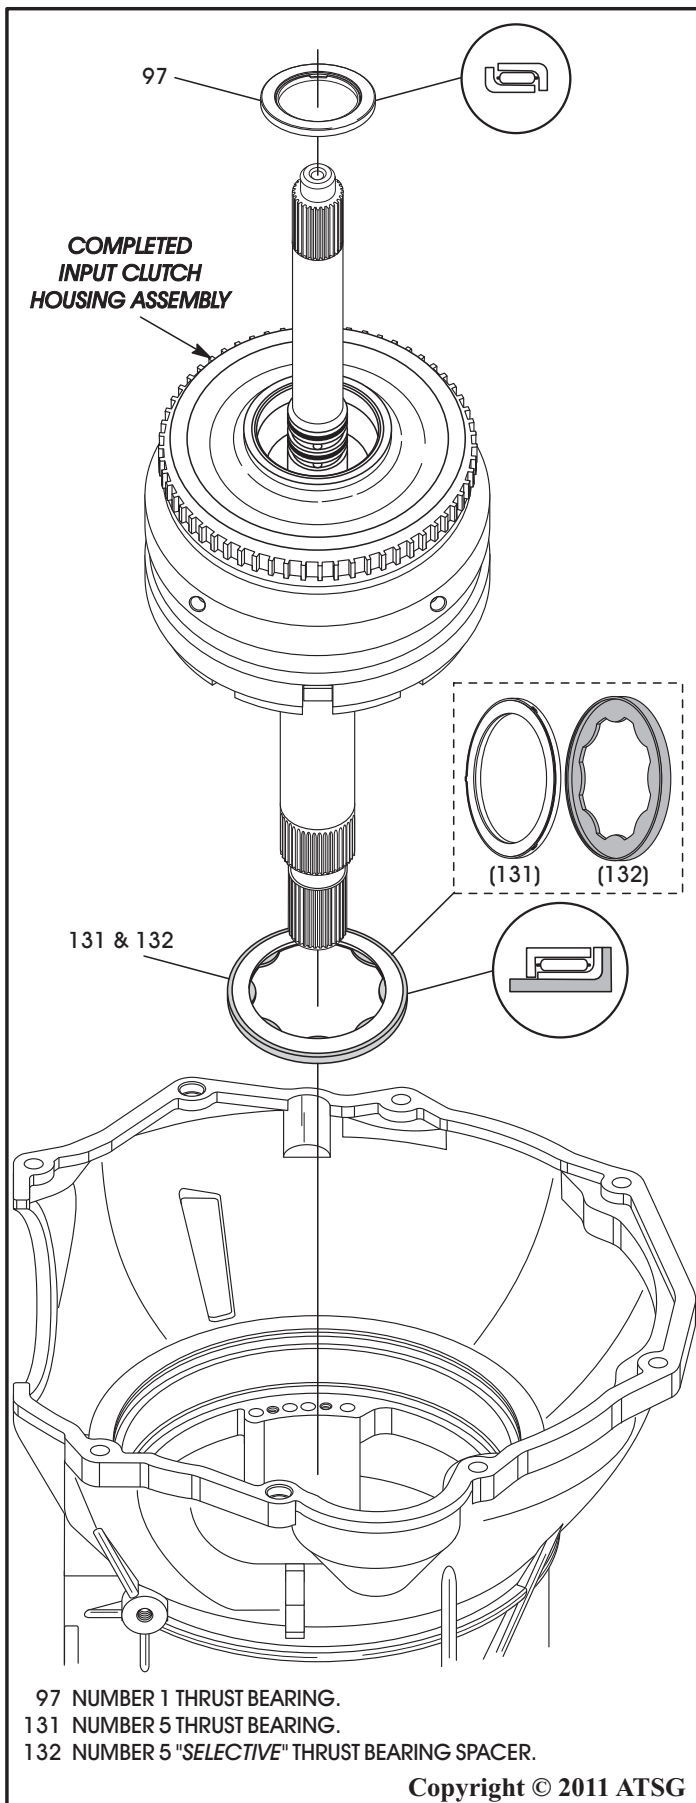
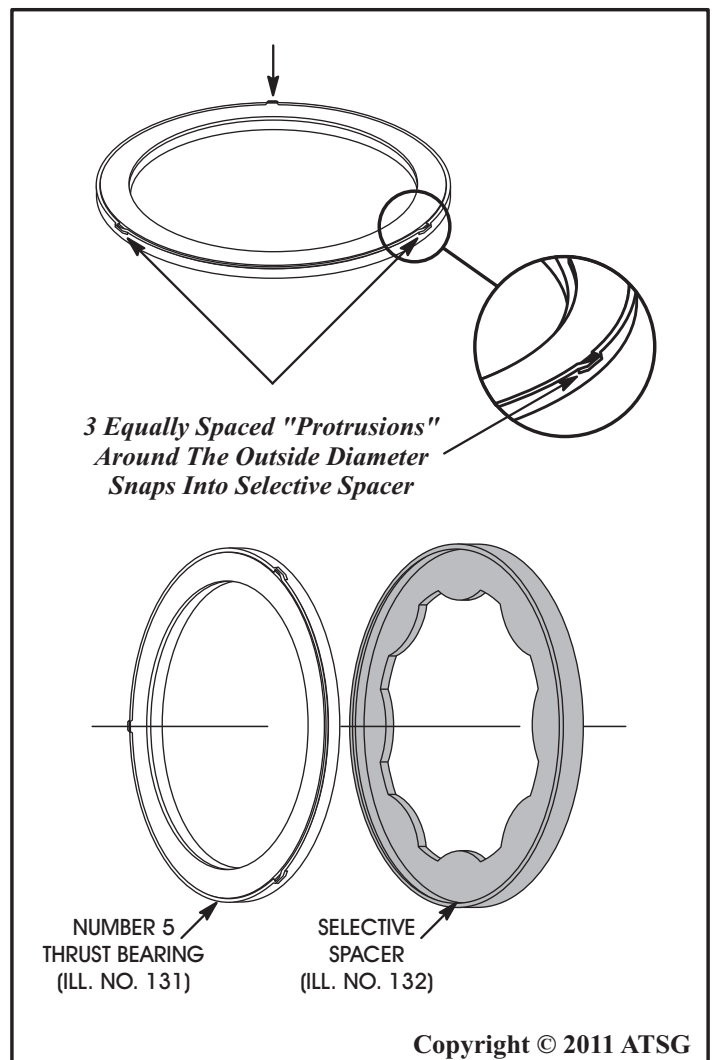

Figure 149
Figure 150
23. Install the number 5 thrust bearing and selective spacer onto back side of reverse clutch hub, as shown in Figure 149, and retain with Trans-Jel®. **Note: Ensure that number 5 thrust bearing is fully snapped into selective spacer, as shown in Figure 150. This spacer is used to set front transmission end-play.**
24. Install the number 1 thrust bearing, in direction shown in Figure 149, down into the pocket of the completed input housing.
25. Install the completed input housing and bearings into transmission case, as shown in Figure 149, by rotating back and forth until fully seated. **Note: The input housing is fully seated when the teeth on input clutch hub are centered in the input speed sensor bore (See Figure 151).**